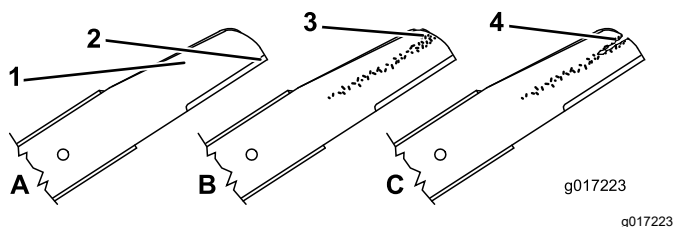

Figure 27
1. Inspect the cutting edges (Figure 27). If the edges are not sharp or have nicks, remove the blades and have them sharpened or replace them.
- Inspect the blades themselves, especially the curved area (Figure 27). If you notice any damage, wear, or a slot forming in this area, immediately replace it with a new blade.